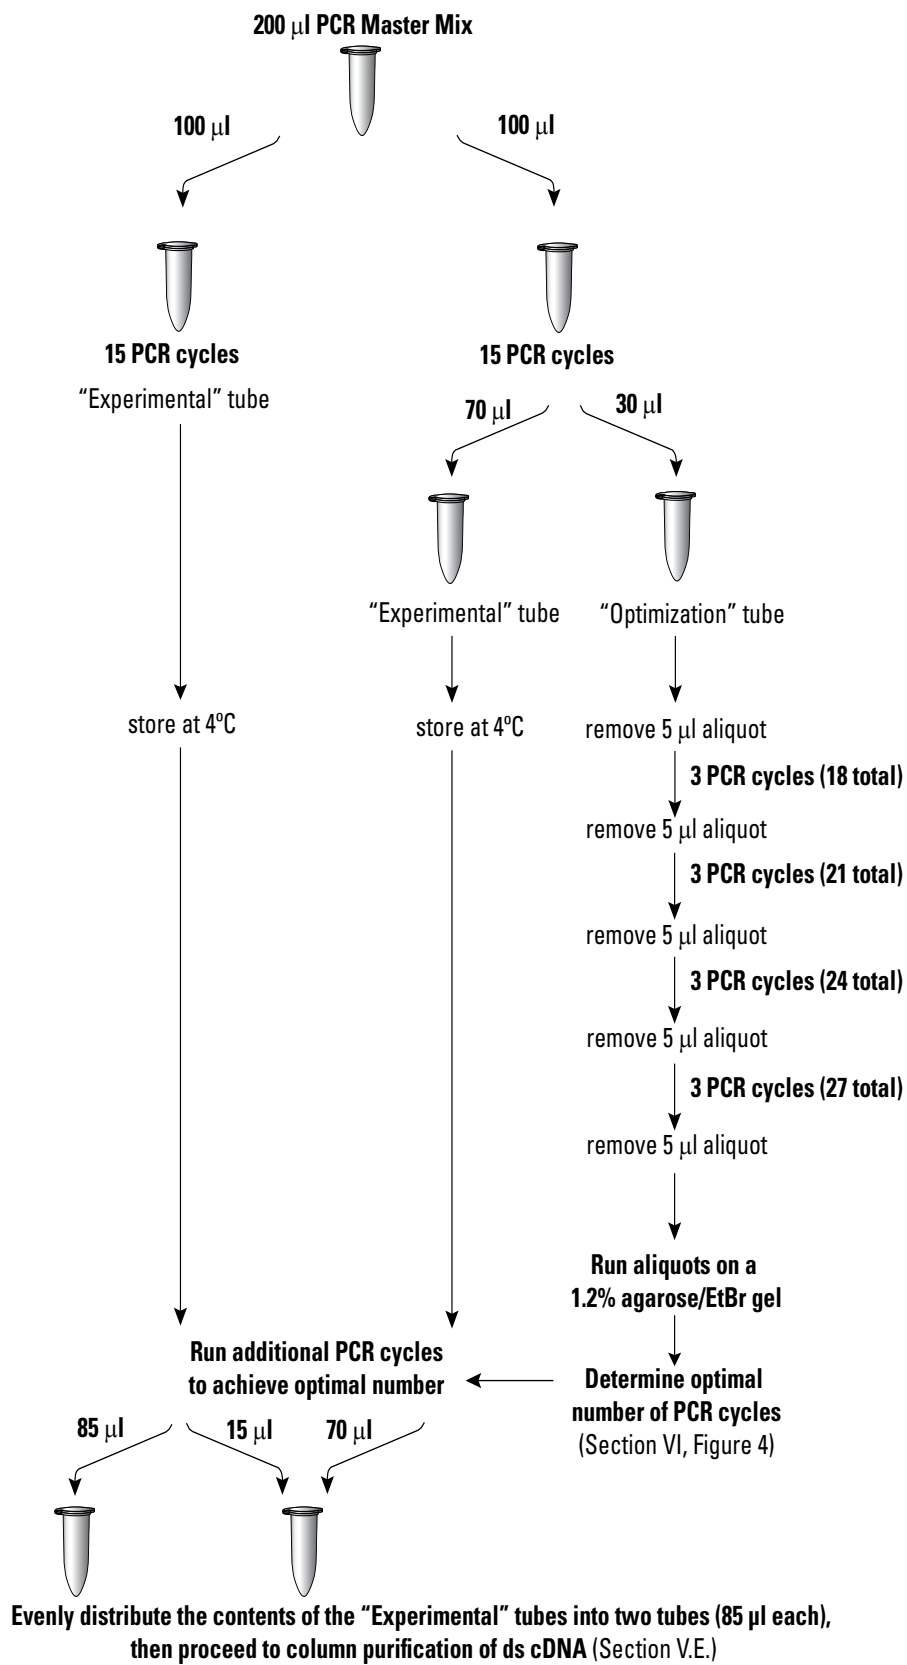

Figure 3. Optimizing PCR parameters for SMARTer Pico cDNA synthesis.
7. Subject each reaction tube to 15 cycles, then pause the program. Transfer 30 µl from one tube to a second reaction tube labeled “Optimization”. Store the “Experimental” tubes at 4°C. Using the Optimization PCR tube, determine the optimal number of PCR cycles (see Figure 3):
12. Evenly distribute the contents of the Experimental PCR tubes into two tubes (85 µl each; see Figure 3), then proceed to Section V.E. Column Purification of ds cDNA using NucleoSpin Extract II.
For the best results, you must optimize the PCR cycling parameters for your experiment, as described in Section V.D. (Figure 3). Choosing the optimal number of PCR cycles ensures that the ds cDNA will remain in the exponential phase of amplification. When the yield of PCR products stops increasing with more cycles, the reaction has reached its plateau. Overcycled cDNA can result in a less representative probe. Undercycling, on the other hand, results in a lower yield of cDNA. The optimal number of cycles for your experiment is one cycle fewer than is needed to reach the plateau. Be conservative: when in doubt, it is better to use fewer cycles than too many.